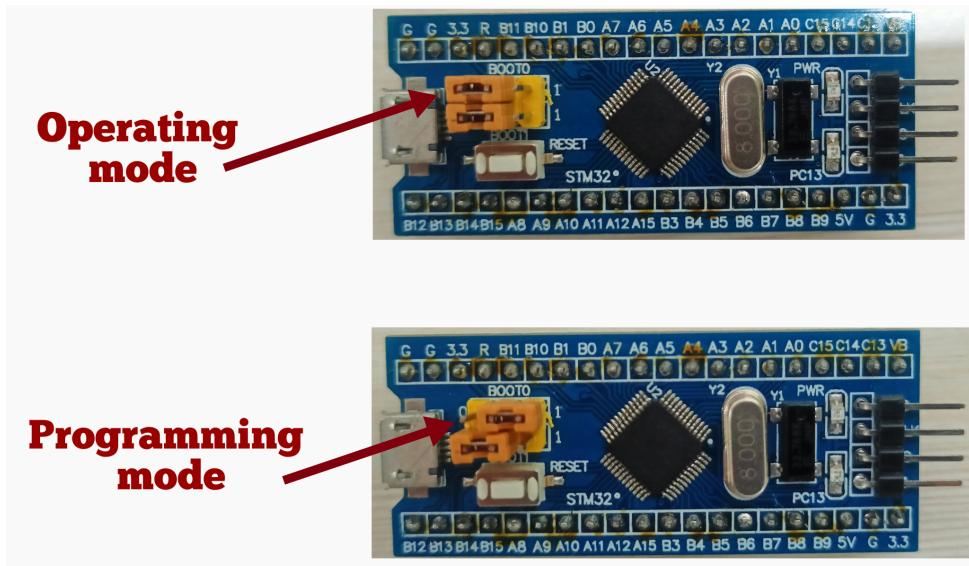

Fig. 11.2: STM32 Operating and Programming mode
8. See how to enable programming mode in Fig. 11.2. This configuration will ensure that the microcontroller enters the system memory programmer on reset.
11. Change the STM32 board to operating mode as shown in Fig 11.2 in order to run your code from the main flash memory.